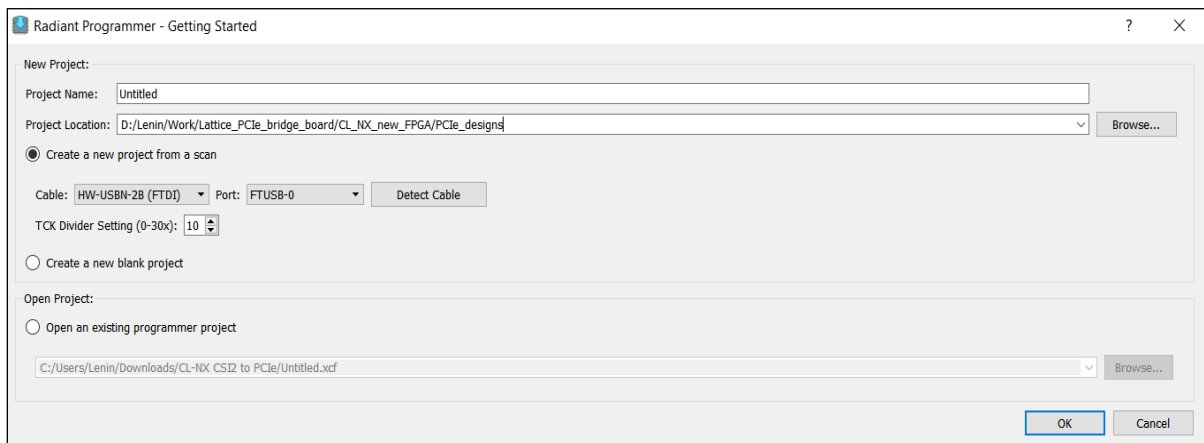

Figure 4.2. Creating a New Project from a Scan
1. Create a new project using the Lattice Radiant Programmer software. In the **Getting Started** dialog box, indicate **Project Name** and **Location** as shown in Figure 4.2.